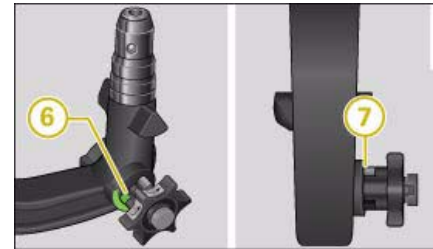

Fig. 212 Removable towing bracket: Safety check
- Check that the green marking (6) ⇒ fig. 212 on the knob is inside the green zone on the ball joint.
- Check that the knob is directly against the ball joint, so that there is no gap (7) between the knob and the ball joint.